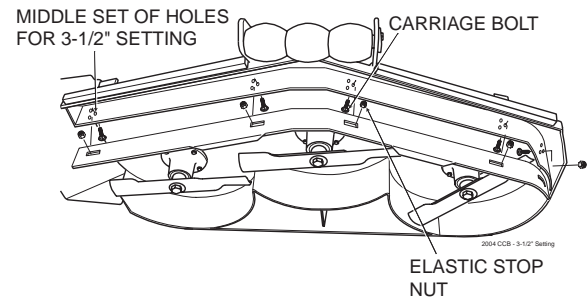

Figure 11. 3-1/2" Custom-Cut Baffle Position
- B. 3-1/2" Position (factory setting) - baffle is installed using the middle set of holes on the front baffle welded inside the cutter deck. (See Figure 11). For general purpose cutting, place the Custom Cut Baffle in the 3-1/2" position. This gives the best mix of cutting performance in all types of grass.